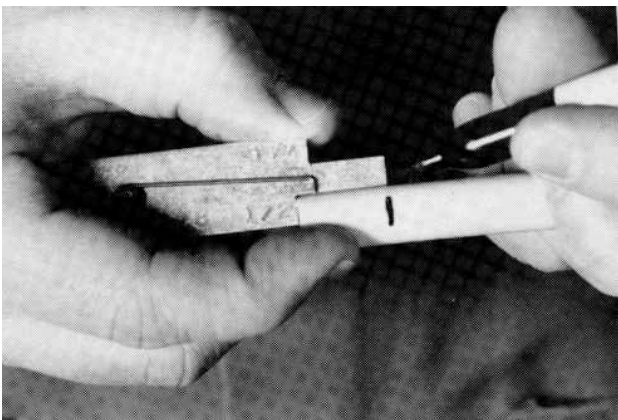

Figure 111 Identify Correct Insertion Depth
14. If the tubing does not have an insertion depth mark, perform the following: Use the repair tool (Figure 111) to identify the correct insertion depth for the size tubing being used. Mark the correct insertion depth on the tube.